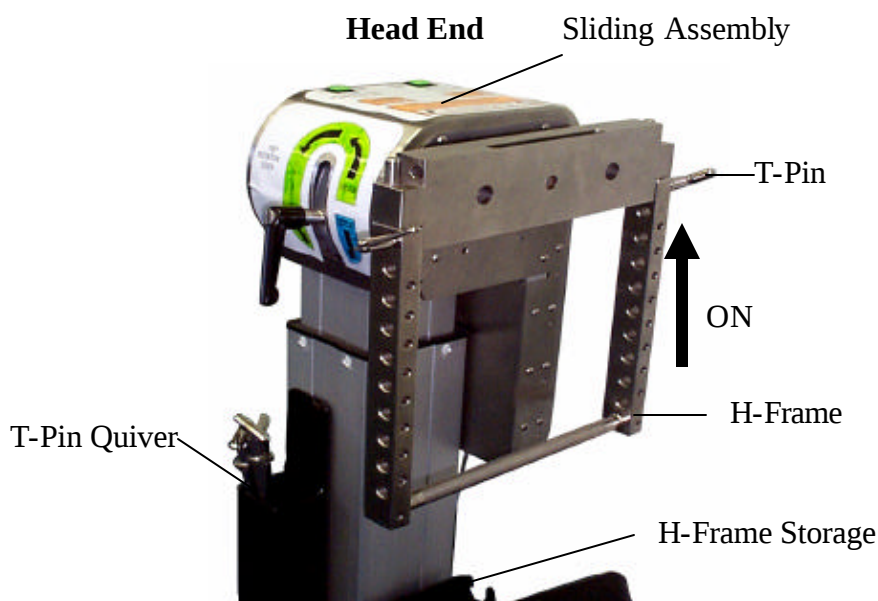

Figure 12- Head-end Pivot Assembly, H-Frame Installed
1. Remove the H-Frame from the H-Frame Storage Bracket located on the Head End Column. Install the H-Frame to Head End Crossbar and secure with a T-Pin. The T-Pins are stored in the T-Pin Quiver located adjacent to each column. The T-Pin must extend completely through both sides of the H-Frame and the Drop Lock should be in sight and pivot freely (See Figure 12). The Head End Crossbar is attached to a Sliding Assembly that adjusts superiorly and inferiorly to accommodate Trendelenburg and Reverse Trendelenburg. Fully retract the Head End H-Frame against the Head End Column.